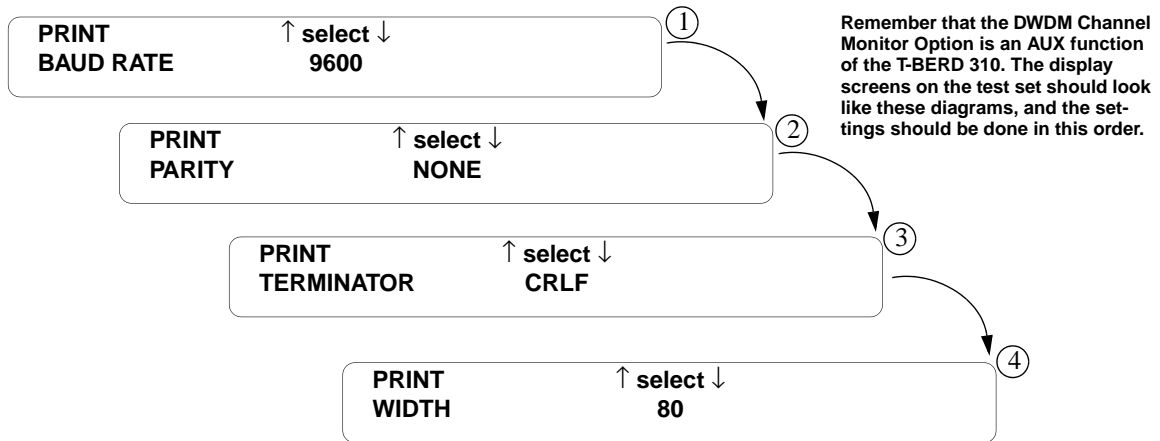

Figure 2-27. Property Settings on T-BERD 310 for Initializing DWDM Test
2. Connect laptop to T-BERD 310 using an RS-232 cable. Set T-BERD 310 settings (after pressing **AUX** switch on test set) in the following order: baud rate, parity, terminator, and width (see Figure 2-27).